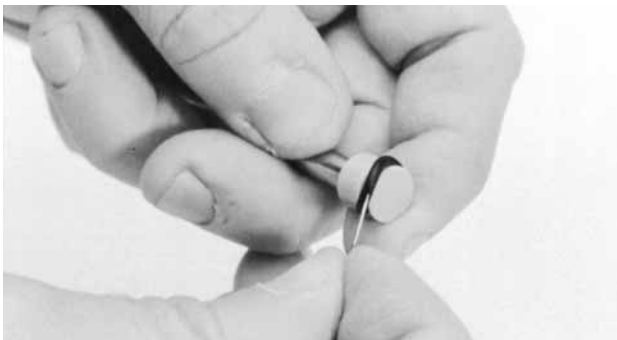

Fig 14. Removing the piston O-ring.
11. Remove the piston O-ring using a needle (see Fig 14). Be careful not to damage the piston head during this operation. Fit the new O-ring by hand.